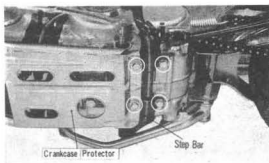

Fig. 5
Remove the crankcase protector from the engine at the bottom by removing the two bolts. (Fig. 5)
11. Remove the stop bar by removing the two bolts. (Fig. 5)